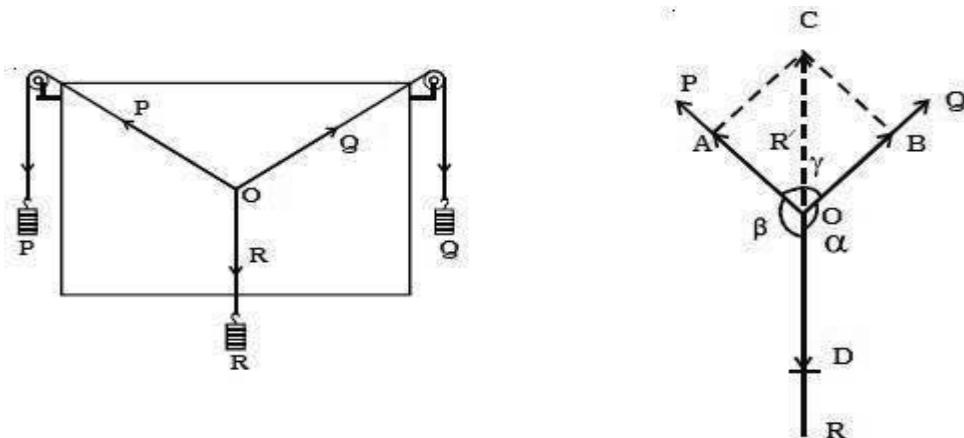

Figure 1
9. Measure the angles included between the two adjacent pulleys and note them as α , β , γ as per figure 1.
11. Repeat step (7) by changing one or two pulleys position and take two more sets of observations.